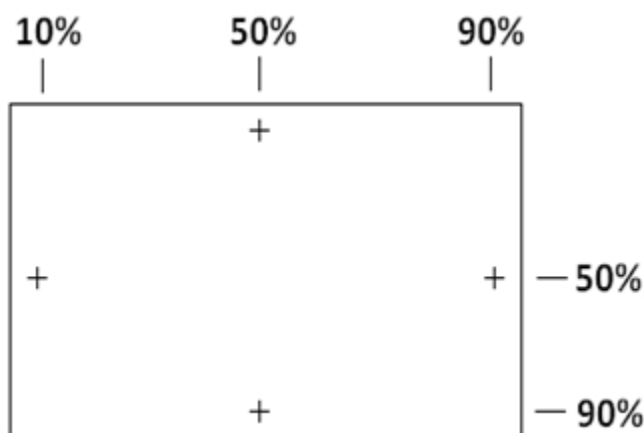

Figure 9. Multi-touch Calibration Points
- When multi-touch detection is enabled, there will be two pairs of multi-touch coordinates that have to be touched (See Figure 9).